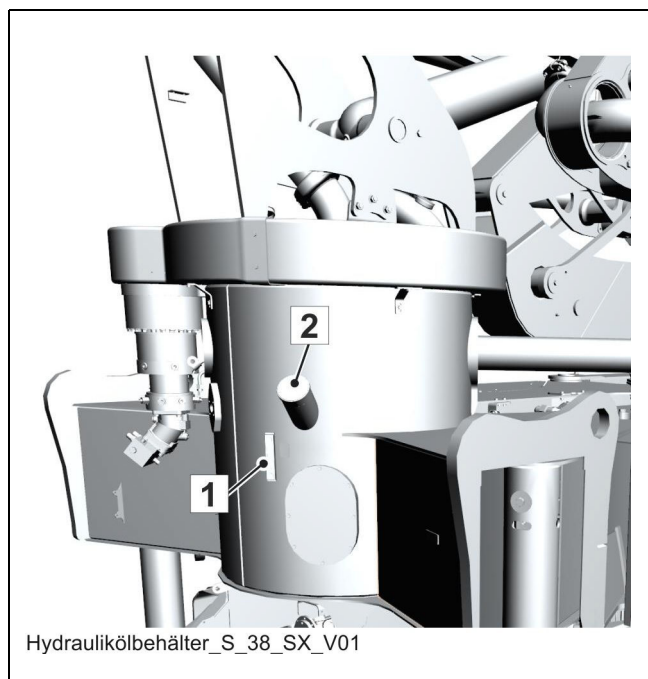

Fig. 50 Example: Hydraulic tank level indicator
- Check the oil level of the hydraulic oil box on the inspection glass (1) (**Fig. 50**).
When the oil is cold, the fill level indicator (1) of the hydraulic oil tank (**Fig. 50**) must be located between the "Min." and "Max." marking.
Caption (Fig. 50)